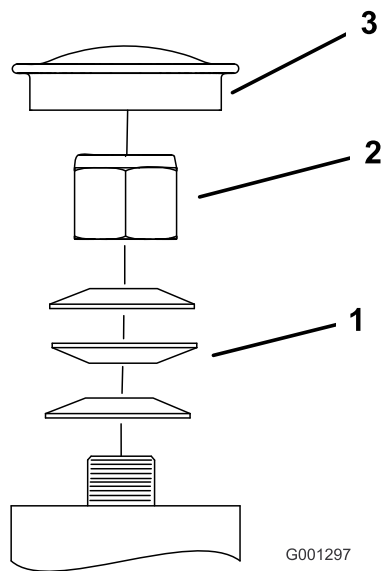

Figure 68
3. Remove the dust cap from caster and tighten the locknut (Figure 68).
4. Tighten the locknut until the spring washers are flat, and then back off a 1/4 turn to properly set the preload on the bearings (Figure 68).
Important: Make sure that the spring washers are installed correctly as shown in Figure 68.
5. Install the dust cap (Figure 68).